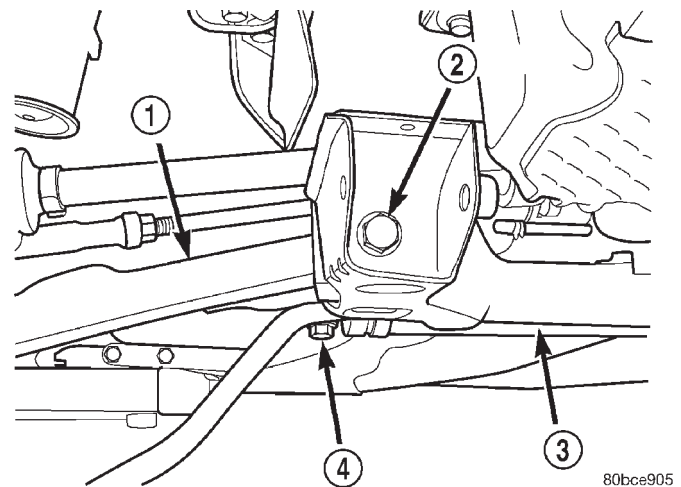

Fig. 17 Lower Control Arm Attaching Bolts
(8) Remove the front pivot bolt attaching the lower control arm to the front suspension crossmember (Fig. 17). Remove the rear pivot bolt attaching the lower control arm to the front suspension crossmember and frame rail. Remove the lower control arm from the crossmember.
(1) Position the lower control arm into the crossmember (Fig. 17). Install, but do not fully tighten, the rear pivot bolt attaching the lower control arm to the front suspension crossmember and frame rail. Install the front pivot bolt attaching the lower control arm to the front suspension crossmember.
(2) Tighten the lower control arm rear pivot (and suspension crossmember) bolt to a torque of 203 N·m (150 ft. lbs.), then tighten the lower control arm front pivot bolt to a torque of 163 N·m (120 ft. lbs.).
(3) Install the ball joint stud into the steering knuckle aligning the bolt hole in the knuckle boss